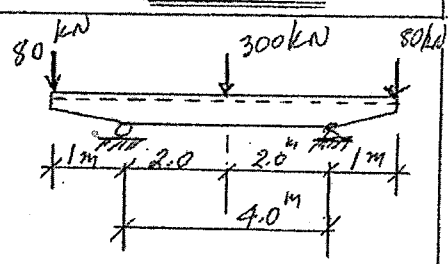

FIGURE B1
- B1. Design a T-section for the simply-supported concrete beam in Figure B1. The amount and layout of the steel reinforcement are required to satisfy moment and shear. Take into account the self-weight of the beam. Use  $f_c' = 35$  MPa and  $f_y = 400$  MPa.